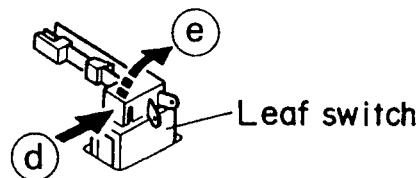

Fig. 2 - 26
■ Pinch roller assembly (Fig. 2 - 27)
1. Pull out the stopper protruding from the base assembly in the direction of the arrow ① to remove it from the pinch roller assembly.
2. Then, pull out the pinch roller assembly in the direction of the arrow ②.